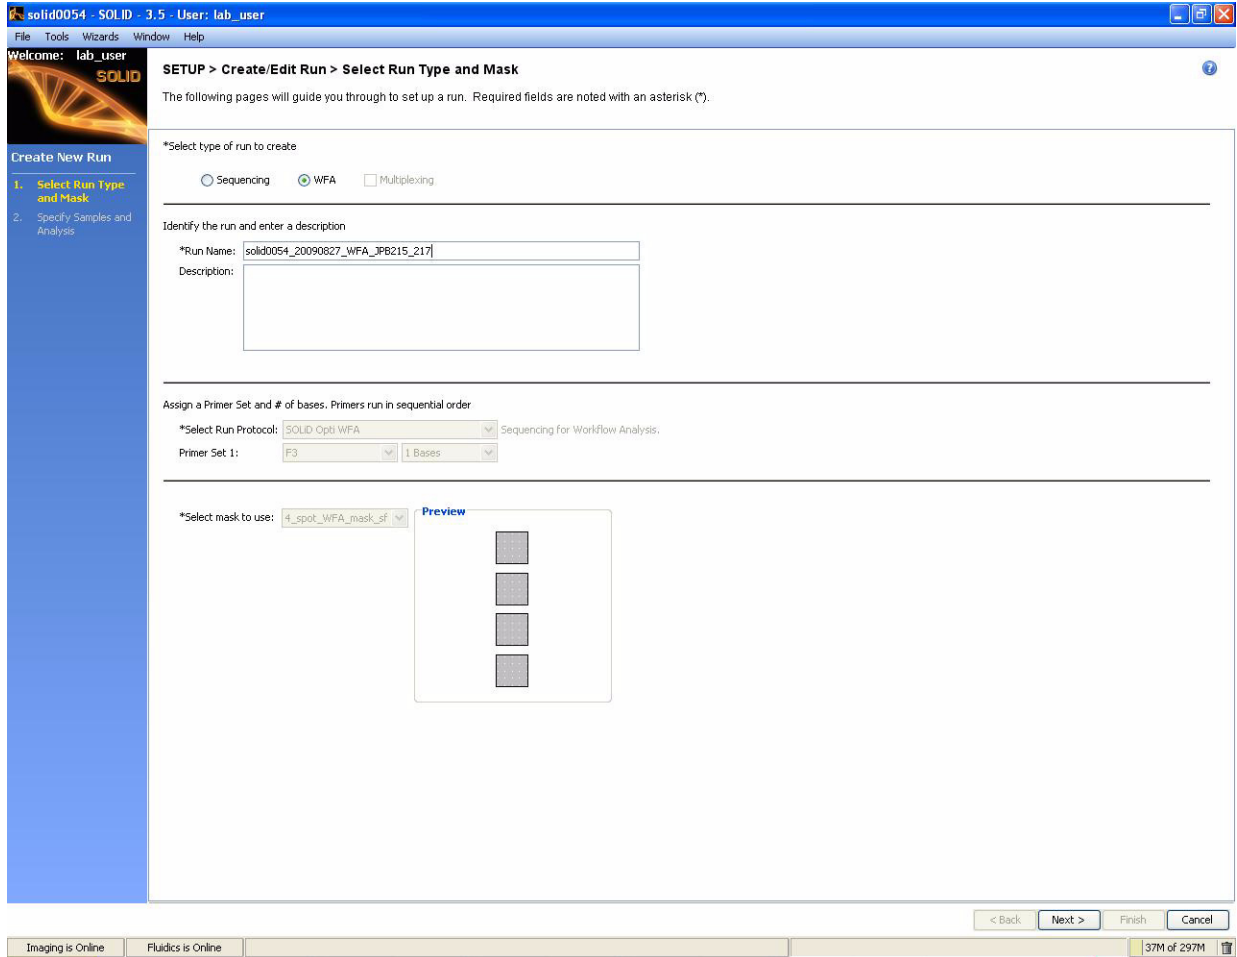

Figure 37 Complete the information in the Select Run Type and Mask pane.
2. Complete the information in the Select Run Type and Mask pane (see Figure 37 on page 42):